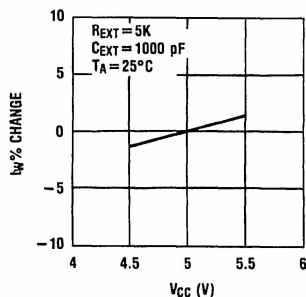

FIGURE 3
5. Output pulse width versus  $V_{CC}$  and operation temperatures: *Figure 3* depicts the relationship between pulse width variation versus  $V_{CC}$ . *Figure 4* depicts pulse width variation versus ambient temperature.